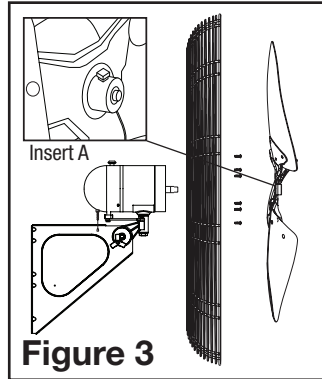

Figure 3
1. Install the rear grill onto the motor, lining up the six holes in the grill with the six threaded holes in the motor. Install (6) 10-32 x 5/16" hex screws through the rear grill into the motor. Securely tighten all (6) screws (**Figure 3**).
2. Push the fan blade onto the motor shaft, centering the hub facing away from the motor, until it stops against the shaft (**Inset A**). Align square head bolt with flat of the motor shaft. **TIGHTEN VERY SECURELY WITH AN ADJUSTABLE WRENCH.** Failure to securely tighten the bolt could result in damage to the fan and/or personal injury (**Figure 3**).